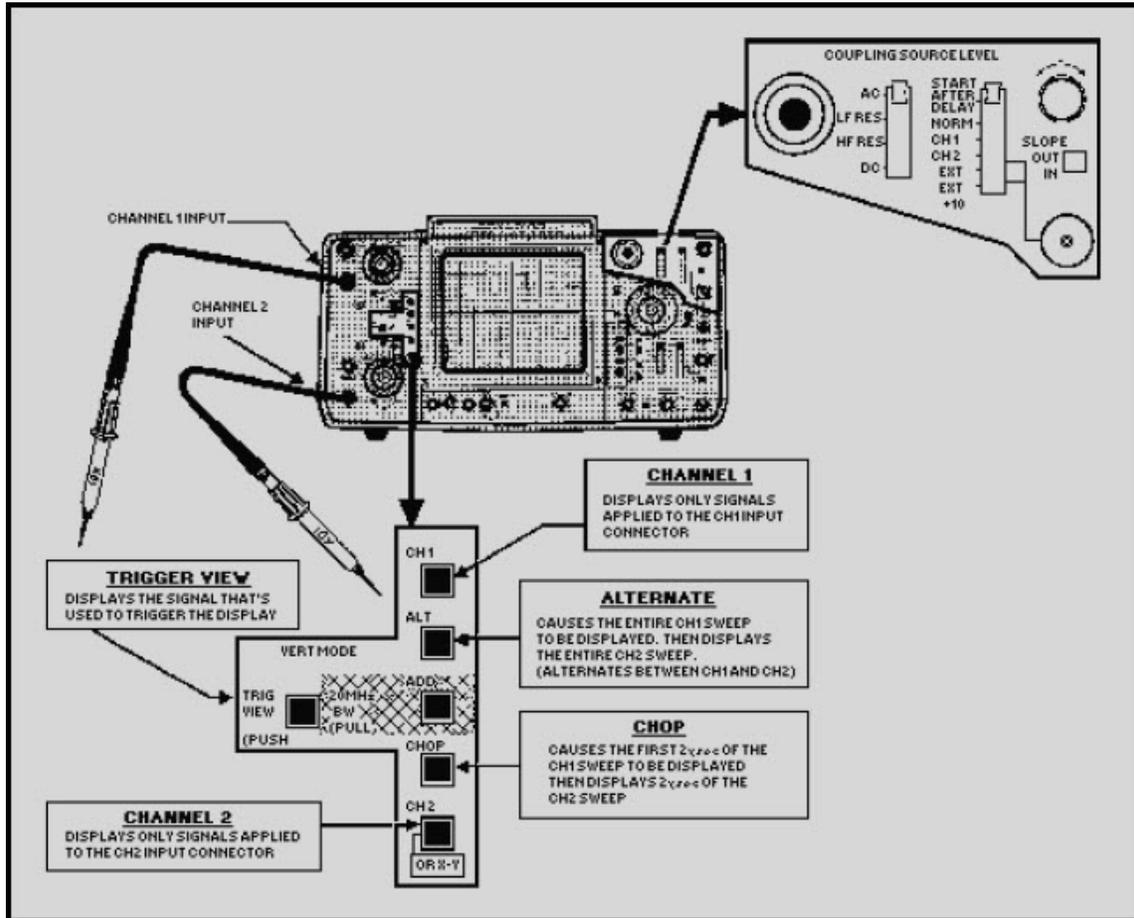

Figure 6-34 Components to select vertical operating mode
The VERT MODE controls (figure 6-34) allow you to select the operating mode of the scope for vertical deflection.
**ADD** - The ADD switch (shown earlier in figure 6-34) algebraically adds the two signals of channels 1 and 2 together for display.
Most dual-trace oscilloscopes have both an A and B time base for horizontal sweep control. Notice in the upper right corner on our example scope (figure 6-34) the COUPLING, SOURCE LEVEL, and SLOPE controls. These serve the same function as did those same controls in the A time-base section of the scope. The B time base is selected using the same A and B TIME/DIV control (pull out outer knob).